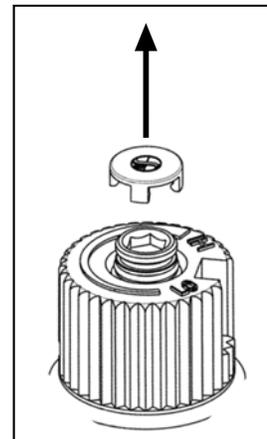

Figure 9: Removing valve cap.
a) Remove the black protection cap from the HI/LO knob by hand shown in Figure 9.
g) Re-attach the black protection cap that was removed in step a) (Figure 9).